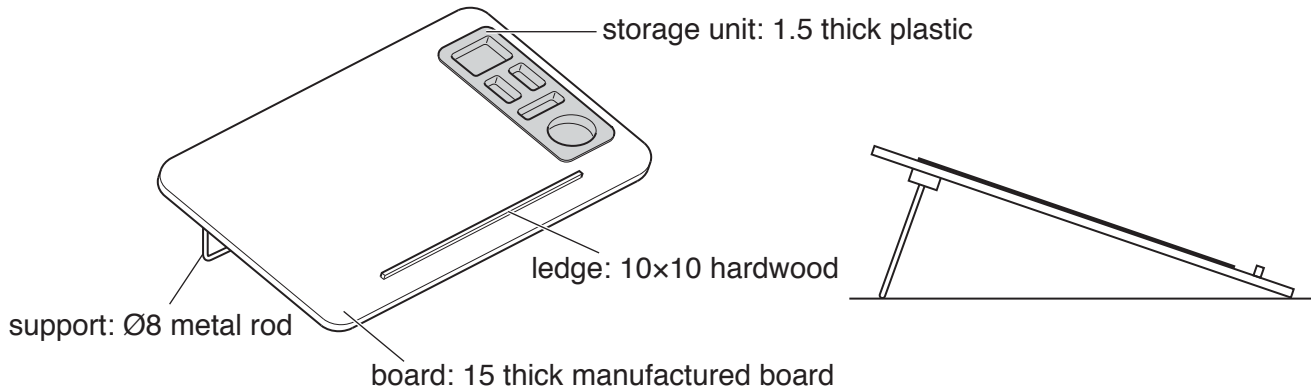

Fig. 8
- 11 Fig. 8 shows views of an artist's drawing board.
- (f) Use sketches and notes to show a different method of supporting the drawing board to that shown in Fig. 8.